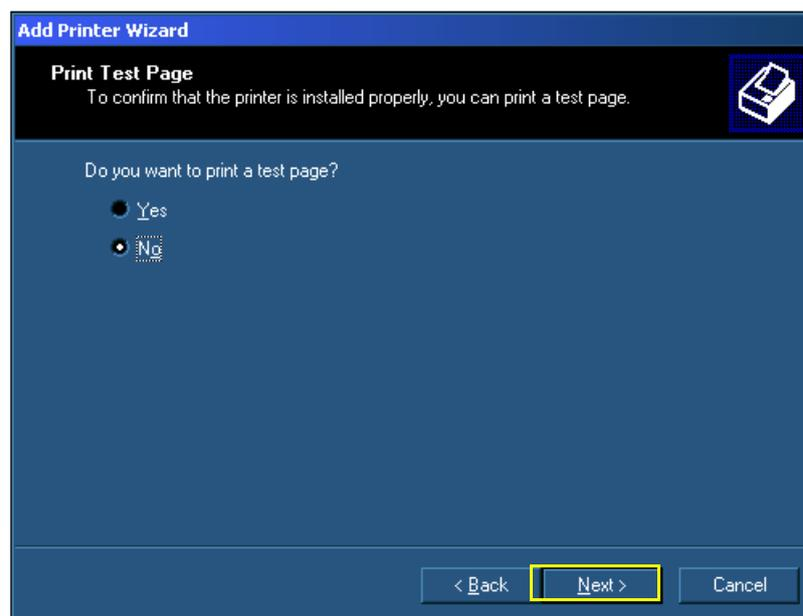

Figure 8-144 Print Test Page Message
20.)In response to the *Print a test page?* message, choose **No** and then click **Next** - see Figure 8-144.